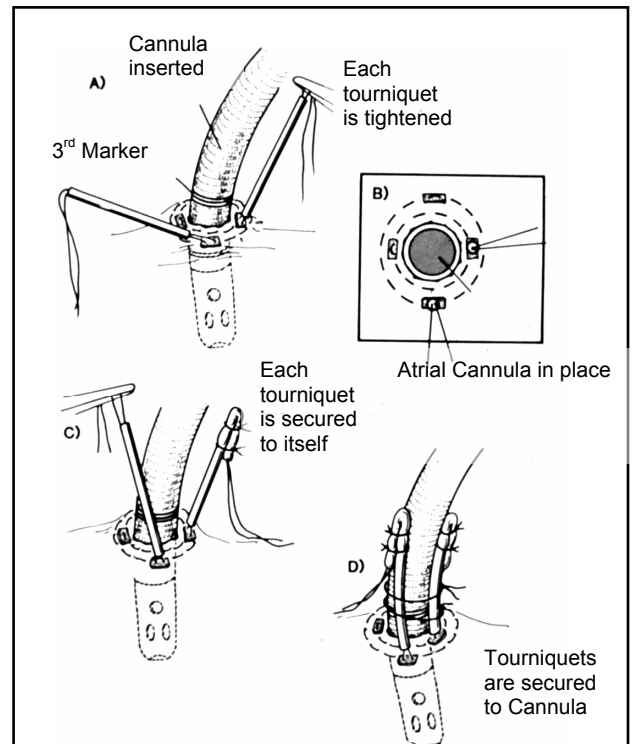

Figure 5
3. Tighten purse strings and secure the tourniquets. **(Fig.5)**